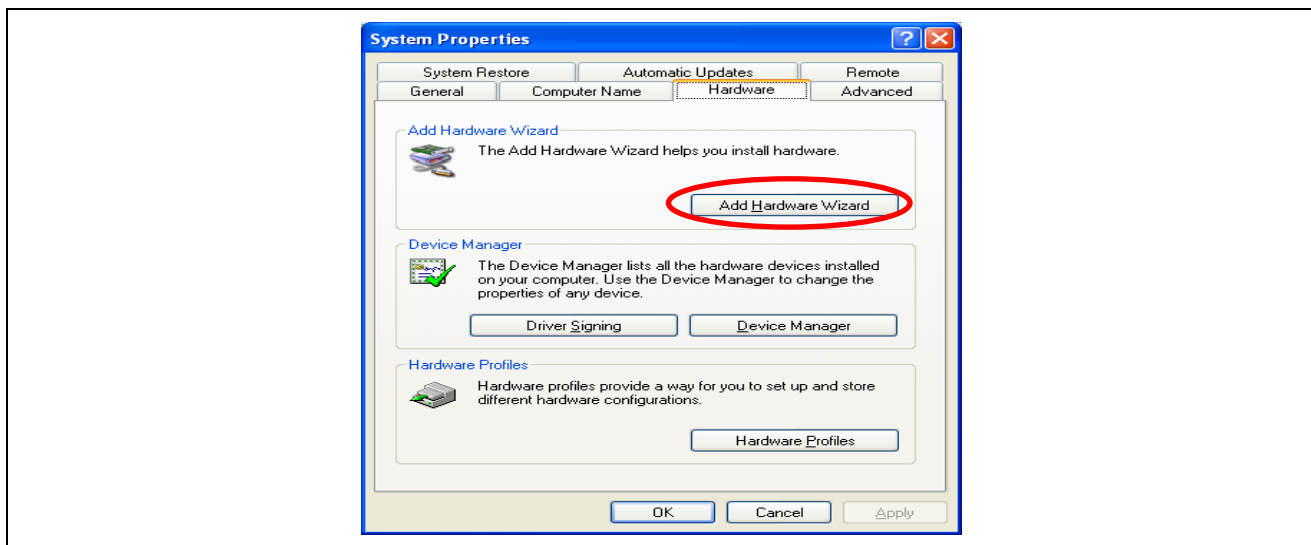

Figure 3.17 [System Properties] Dialog Box
- (1) Open the properties window for [My Computer] ([System Properties] dialog box).
- (2) Open the [Hardware] tabbed page and click on the [Add Hardware Wizard] button as shown in Figure 3.17.